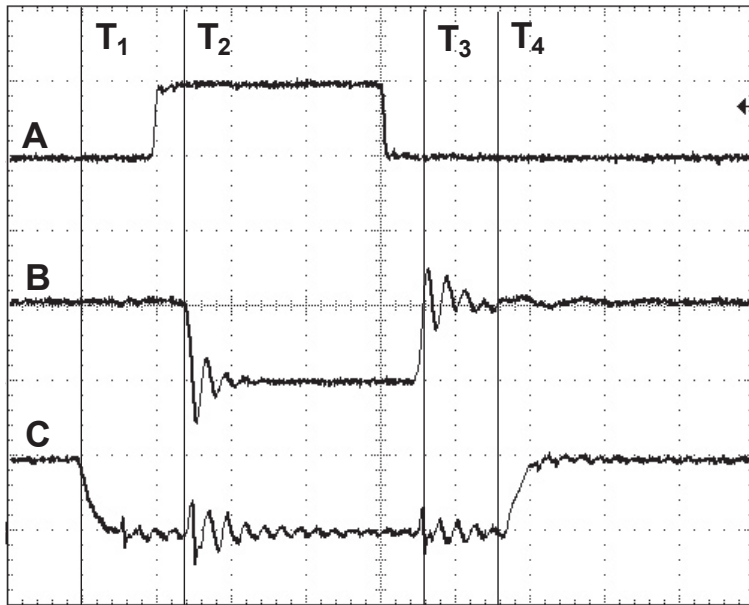

Figure 17
The real time gating of the FN function is illustrated in Figure 17. At  $T_1$  the FN trace (C) is deactivated and at  $T_4$  it is reactivated.